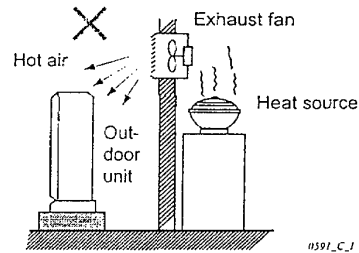

Fig. 2
- heat sources, exhaust fans, etc. (Fig. 2)